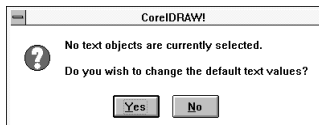

Fig. 25
**63.** Use the mouse to adjust the type size to 16.0. Next Click on Apply. A screen will appear indicating that no text was selected and asking if you desire to change the default value. ( See **Figure 25** ) Click on Yes. All the text entered will now be in the selected font and size.